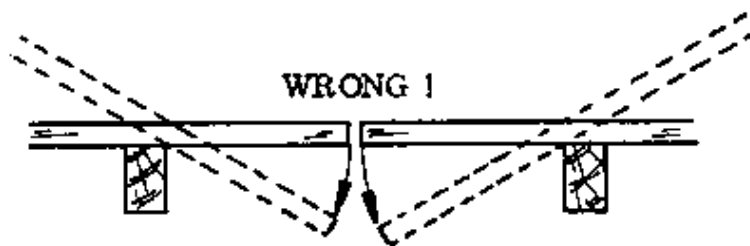
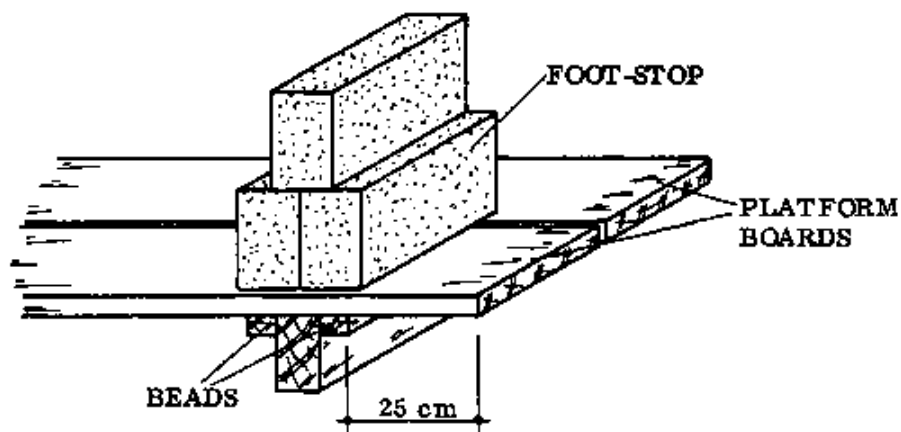

Fig. 2
Fig. 4
- Pay attention when you lay the platform boards, so you don't create a scaffold trap. This is a place which looks safe but is not (Figs. 2 & 3). The free ends of the platform must not project by more than 25 cm past the ledge, and they should be blocked off by a foot-stop (Fig. 4).
- Beads can be attached to the bottom of the platform boards to prevent them from shifting along the ledges (Fig. 4), or the platform boards can be nailed directly to the ledges.